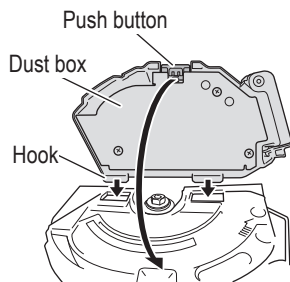

Fig. 15
- (4) If washer (A) was removed, install it on the main unit first. Next, mount the saw blade on the spindle, and finally, affix washer (B).
- (5) To assure proper rotation direction of the saw blade, the arrow direction on the saw blade must coincide with the arrow direction on the saw cover.
- (6) Using the fingers, tighten the hexagonal bolt retaining the saw blade as much as possible. Then depress the lock lever, lock the spindle, and thoroughly tighten the hexagonal flange bolt.
- (7) Confirm that the lock lever is in the original position.
- (8) Attach the dust box. (Fig. 15)